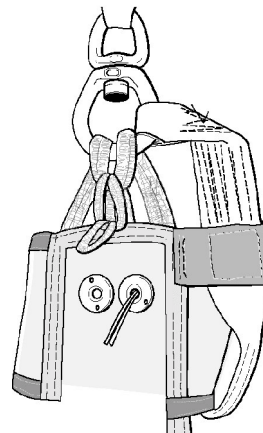

Figure 20. Routing of Small Size Loop
d. Route the release's small loop through its mid-size loop and fold it over/around the mid-size loop (Figure 20).